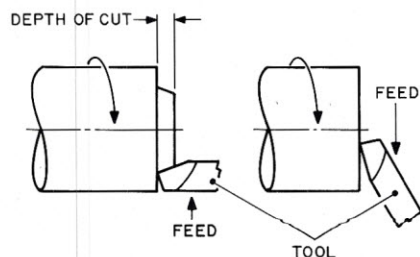

Figure 1. Lathe terminology for facing applications.
**Depth of Cut.** The distance into the raw material that the tool cuts per pass. (Figures 1, 2, 3, 4, and 5.)
angles to the axis of the spindle and part. Used to produce a flat surface. (Figure 1.)
**Feed.** The action of moving the cutting tool into the material. Commonly measured in inches-per-revolution of the part or cutter. (Figures 1, 2, 3, 4, and 5.)
**Turning.** A machining process commonly performed on a lathe which produces a cylindrical or conical shape by feeding a cutting tool into the material in a longitudinal direction (Figures 1 and 2.)